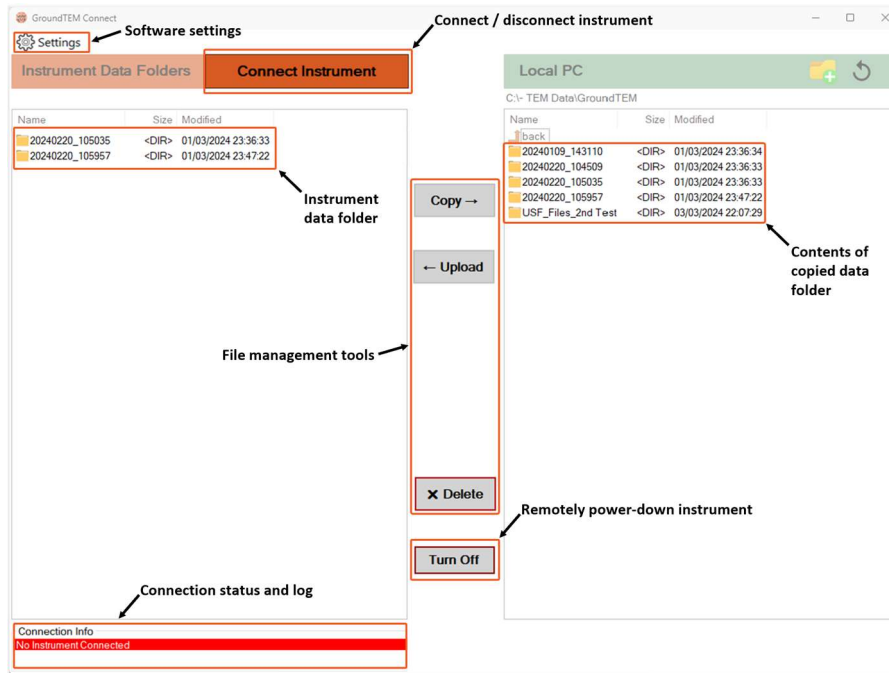

Figure 21. Steps for copying data from GroundTEM unit (after connecting to the instrument).
- Press *Connect to Instrument* to display the data folders on the GroundTEM unit (Figure 21).